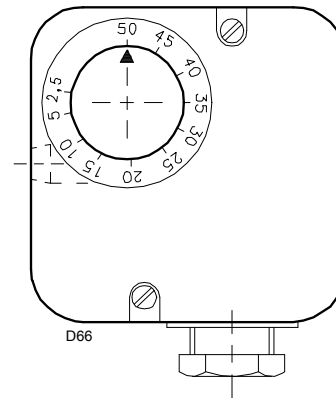

Fig. 36
- Adjust the maximum gas pressure switch to the start of the scale (Fig. 36).